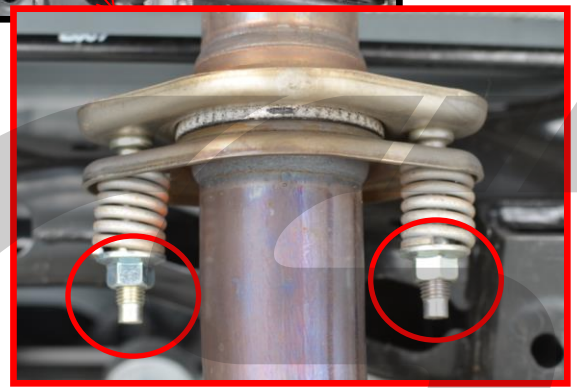

Figure 1b
- a) Remove the two 14mm nuts shown with the red circles in Figure 1b. Set the springs to the side as they will be used with the CorkSport axle-back exhaust.